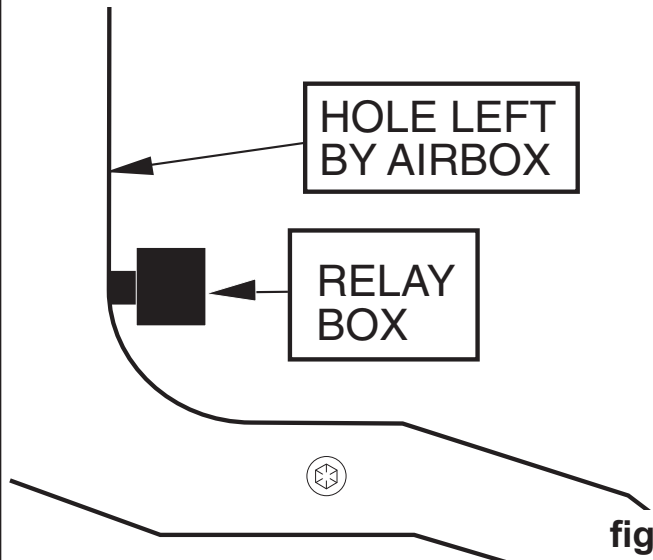

fig. 2
- 6) Relocate the relay box on the fenderwell, to the unused bolt hole left by the airbox. (see fig. 2)